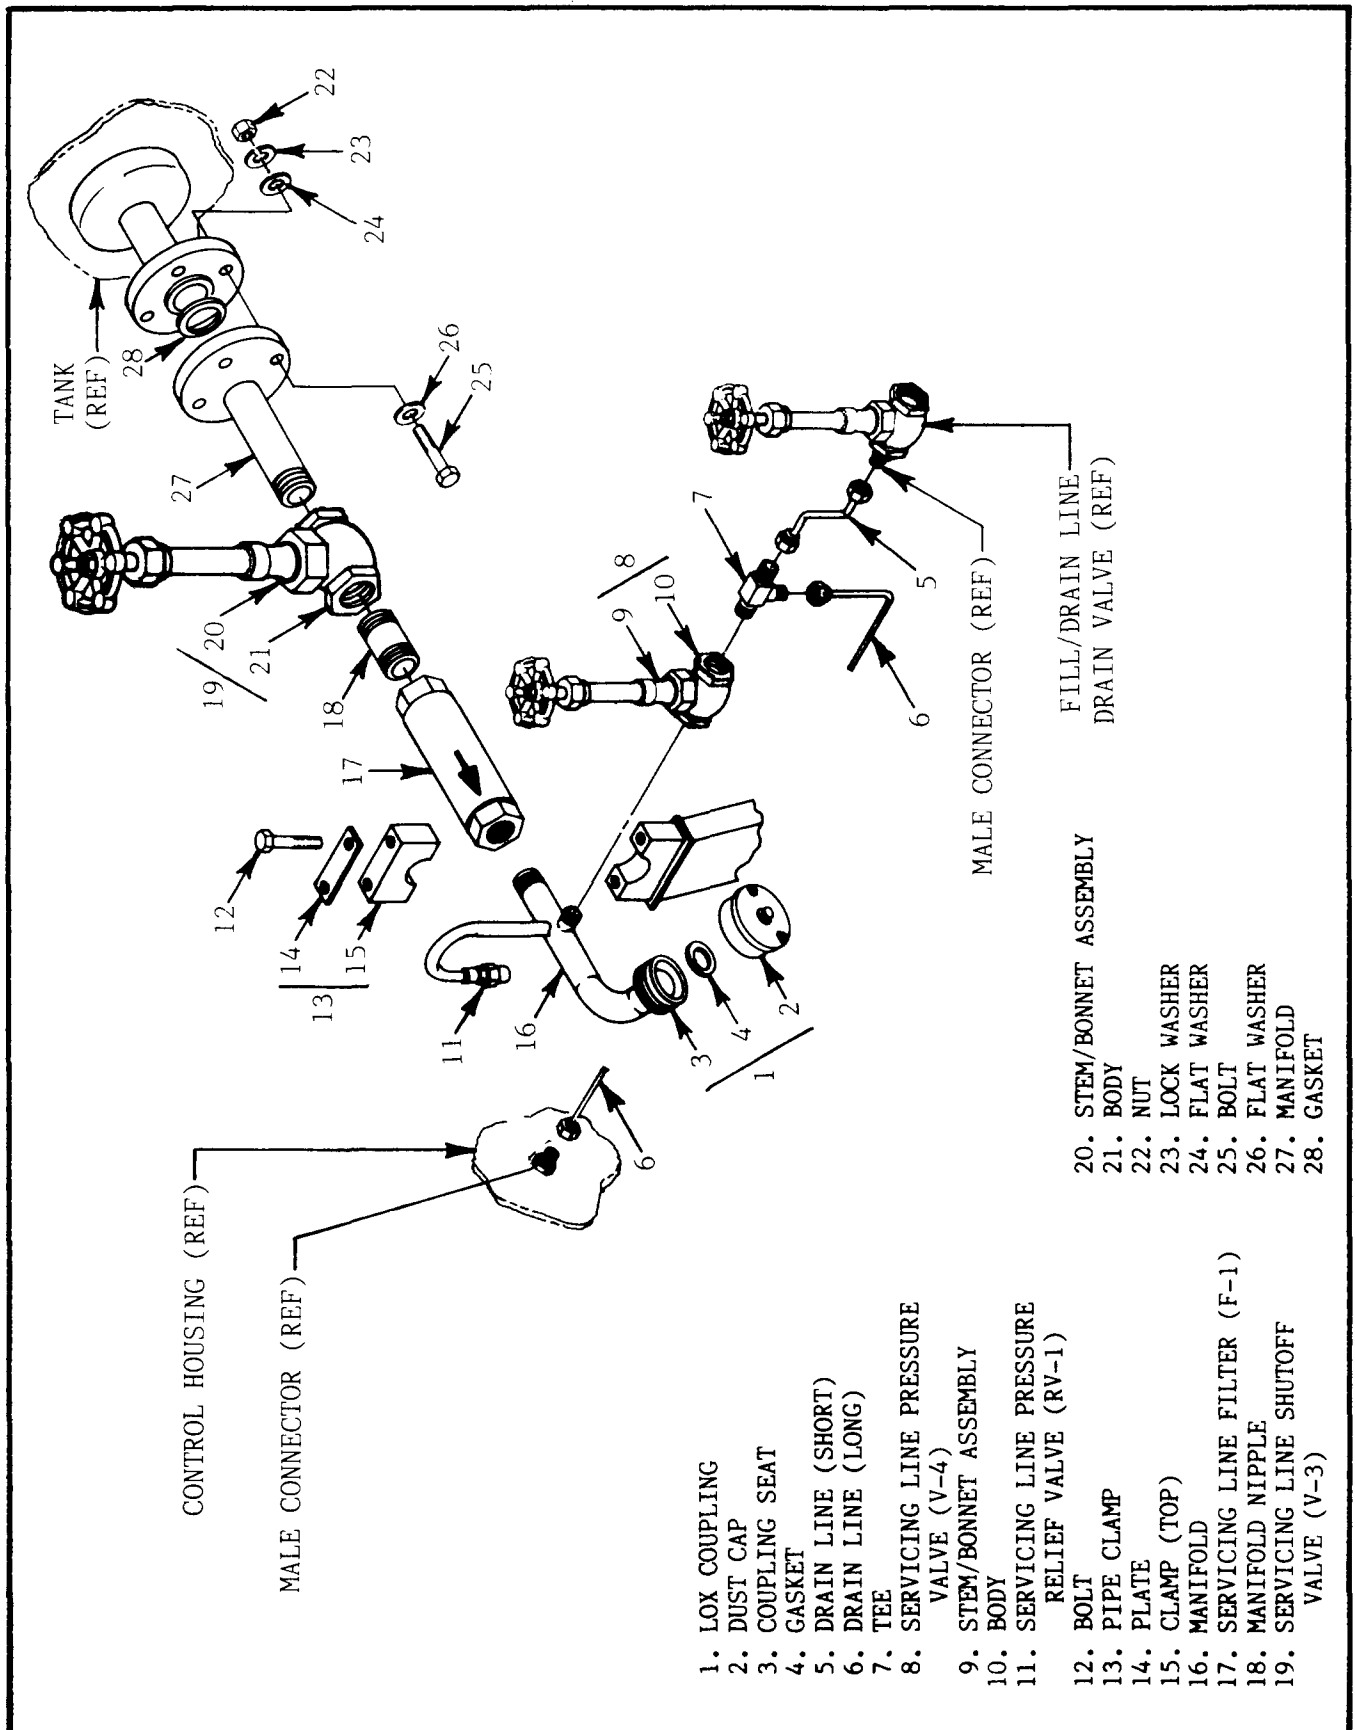

Figure 3-3. Servicing Line and Components.
3-2.2.3 Servicing Line (SL) Removal and Disassembly (See Figure 3-3). The SL consists of the LOX coupling, SL drain valve (V-4), SL shutoff valve (V-3), SL pressure relief valve (RV-1), SL filter (F-1), manifold sections, and associated hardware. Disassembly of the SL is as follows: